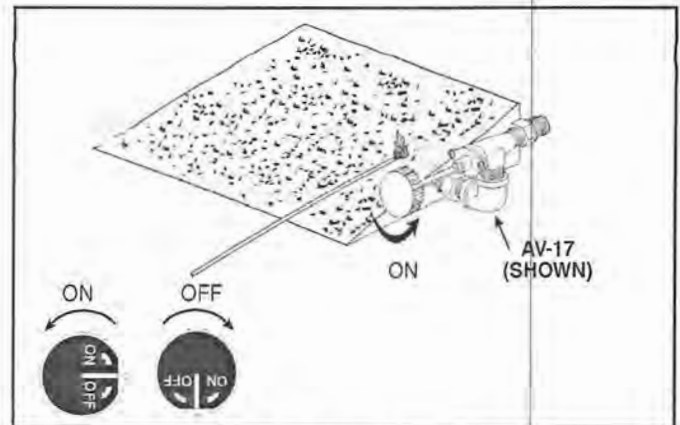

Figure 22
1. Lay a lighted long-stem match on the surface of the embers near the gas inlet (**do not hold the match in your hand**) or use a lighted long-necked butane lighter (Figure 22).
4. Wait approximately five (5) minutes to clear out any gas, and repeat steps 1-3 above.